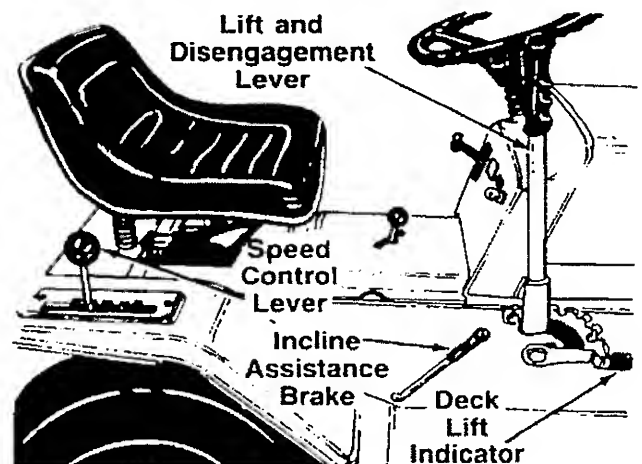

FIGURE 10.
The speed control lever allows you to regulate the ground speed of the lawn tractor. See figure 10. To select the ground speed, depress clutch pedal. Push speed control lever outward and move backward to slow lawn tractor, move forward to increase speed. When desired speed has been obtained, release lever in that position. Whenever clutch is engaged, unit will automatically go to the pre-set speed.
When stopping on a hill, hold the incline assistance brake lever back while you release the clutch-brake pedal until the lawn tractor begins to move, then release the lever. This lever permits smoother starts and clutch engagement by holding the tractor during the brake release/clutch engagement operation. See figure 10.
The lift and disengagement lever is used to raise and lower the cutting deck. Pulling it all the way back and locking it disengages the blades. The lift and disengagement lever **must** be in the disengaged position when starting the engine, when shifting into reverse or if the operator leaves the seat. See figure 10.
The deck lift indicator marks the position being used for the lift lever. Select the lift lever position desired, press the indicator lever outward, move it to the position immediately below the lift lever and release the indicator lever. See figure 10.
3. Place the lift and disengagement lever in the DISENGAGED position. See figure 10.